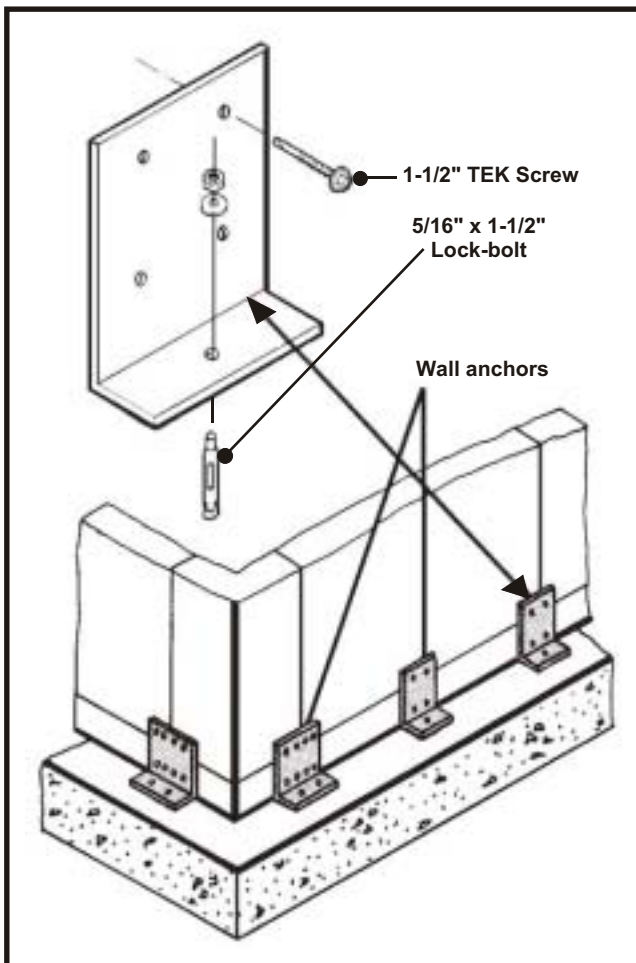

Fig. 27
- B. installations without floors. Steps C through F show the installation method for these anchors. If your installation requires screeds, follow the instructions below, but attach the panels. In this case, locate the anchors to the vertical panels above the screeds, as shown in steps C through F. If your floor plan calls for exterior anchors, Skip to Step G. See Fig. 27.
- G. For walk-ins requiring anchors on the outside of the wall, begin by centering a WA-4 anchor on the joint between any corner and the adjacent vertical. Attach the anchor to the concrete floor as described in Steps C and D above. See Fig. 27.